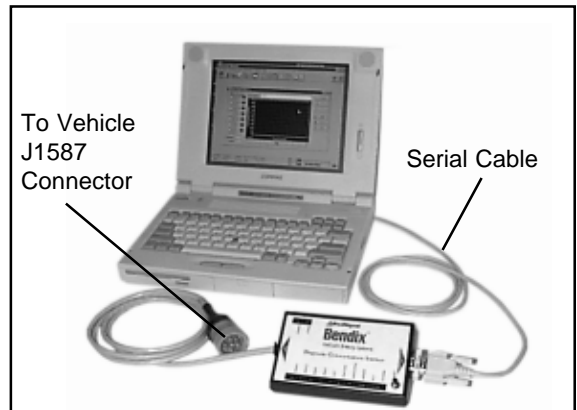

Figure 5 DCI Connected to Lap Top Computer
4. With the computer turned off, connect the other end of the serial cable to an unused serial port on the computer. (See figure 5)